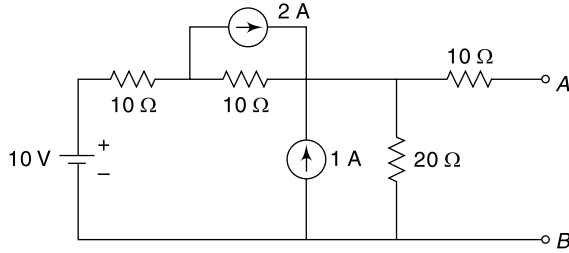

Fig. 4.186
25. Find the Thevenin's equivalent circuit at terminals A, B for the network shown in Fig. 4.186. [Ans: $V_{Th} = 25$ V, $R_{Th} = 20$ Ω]